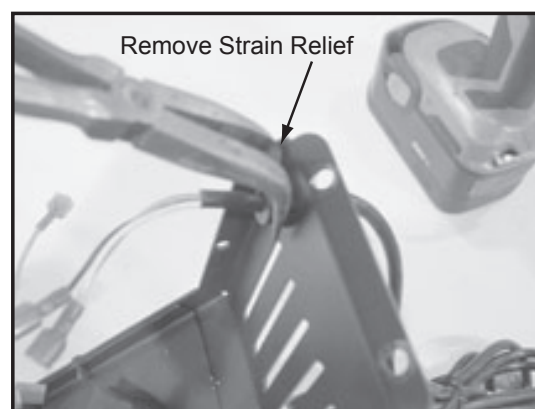

Figure 19.3
4. Remove the strain relief with pliers. This will free the power cord from the convection housing. **Figure 19.3.**